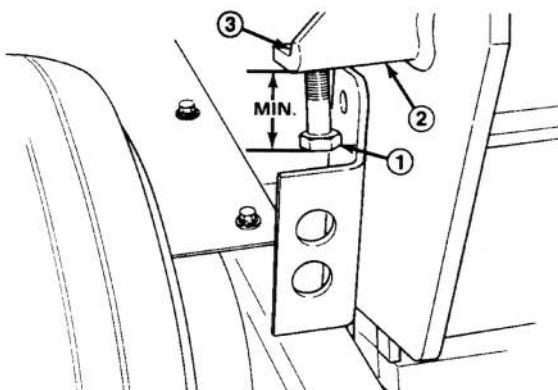

Figure 8
2. Loosen the jam nut on top of the adjusting bracket (Fig. 8).
3. Thread the adjusting screw into the bracket to increase coring depth. Thread it out to decrease depth (Fig. 8).
the bracket is $1\frac{1}{16}$ " (Fig. 8).